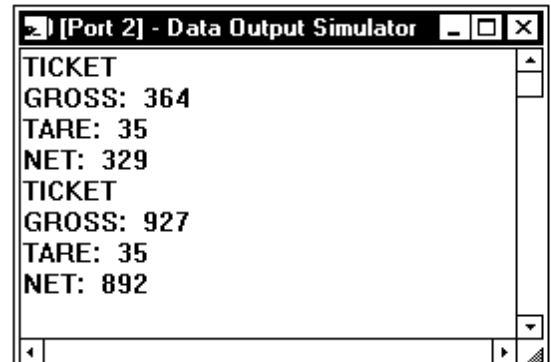

Figure No. 10
- New Weight Simulator -- This command opens a window which looks like a multiple axle truck. Like the Scale Simulator, it can be reduced or enlarged in size as needed. When positioned on top of the Scale Simulator(s), it will cause the scale to display a weight reading. The weight for up to five (5) axles can be configured from the Options selection on the menu bar after the Weight Simulator window is opened.
- New Data Output Simulator -- This command will start the data output simulator. It can be configured to represent the data output of one (1) or all eight (8) serial ports by selecting Port on the menu bar. The example shown in Figure No. 10 is on port 2 of the simulator and represents a Ticket printer.